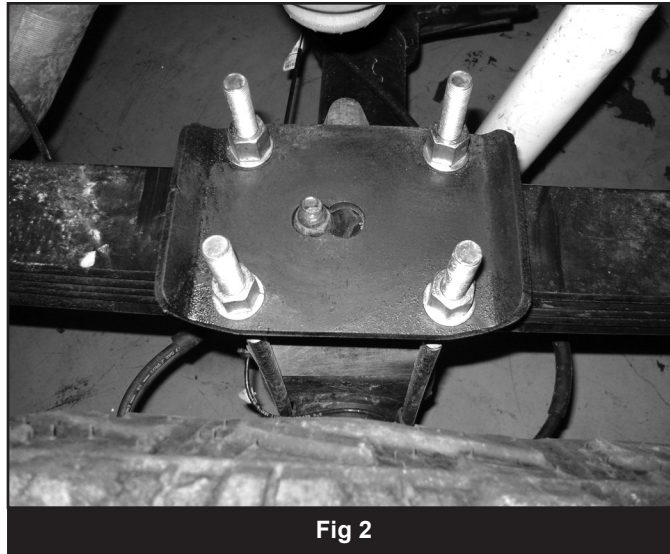

Fig 2
9. Raise the axle to engage the block spring alignment pins. Be certain the leaf center pin aligns with the REAR hole in the new lift block. Position the new u-bolt plate on the top of the spring over the center pin nut. Position the plate so the bolt pattern is shifted forward on the spring. (Fig 2) Fasten the entire assembly with the appropriate u-bolts, high nuts and washers. Snug but do not torque the u-bolts at this time.